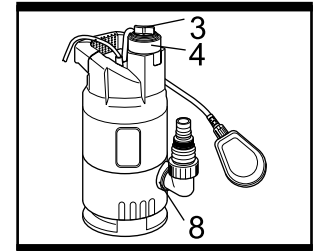

Fig. 2a
- (1). Use lower outlet nozzle for clean or dirty water purposes, with a particle size less than or equal to 30mm. To extract water from lower outlet nozzle, connect the hose connector (7a) and the adaptor (7b) and discharge pipe to lower outlet nozzle (8). (See Fig. 2a)